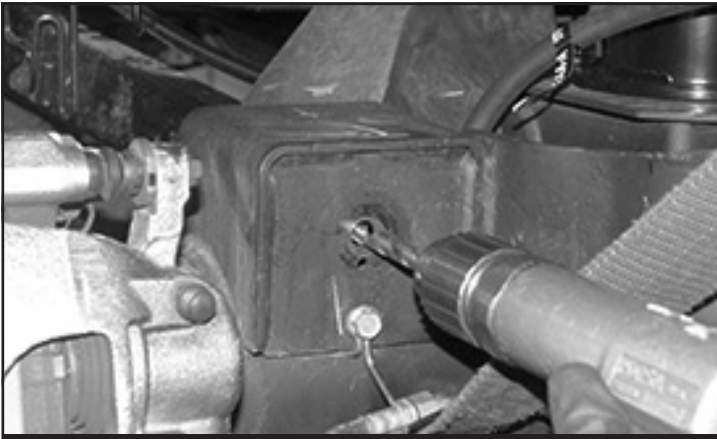

FIGURE 60 - STEP 55
55. Next, using a ½" bit, drill the old brake line bracket hole to allow for the new track bar support bracket in a future step. **SEE FIGURE 60**